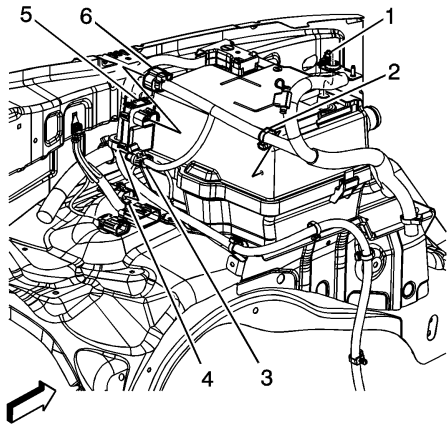

Fig. 2 Battery positive cable removal
7. Loosen engine wiring harness/battery positive cable nut (1), **Fig. 2**.
9. Remove engine wiring harness/positive battery cable clip (2) from upper battery box, **Fig. 2**.
7. Install engine wiring harness/positive battery cable clip (2) to upper battery box, **Fig. 2**.
8. Connect engine wiring harness/battery positive cable to battery, **Fig. 2**. **Torque** battery cable nut to 80 inch lbs.